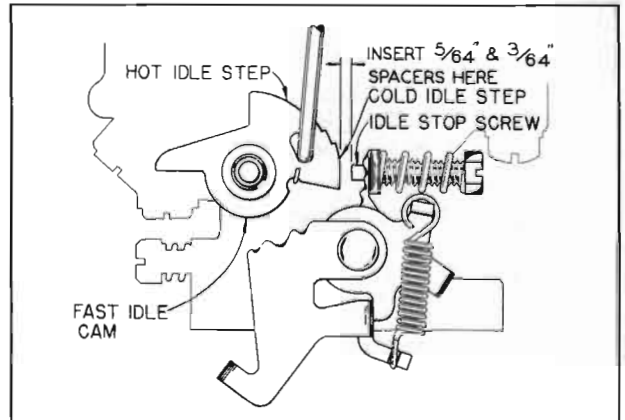

Figure 10-40—Spacer Between Idle Stop Screw and Fast Idle Cam
4. Place  $\frac{5}{64}$ " spacer between idle stop screw and fast idle cam while holding fast idle cam in extreme cold idle position. Close throttle so that spacer will hold cam in this position. See figure 10-40. Turn ignition on, hold spacer and open throttle. *Engine should not crank.*
5. Still holding throttle open, place  $\frac{3}{64}$ " spacer between idle stop screw and fast idle cam while holding fast idle cam in extreme cold idle position. Close throttle so that spacer will hold cam in this position (fig. 10-40) and again open throttle with ignition on. *Engine should crank.*